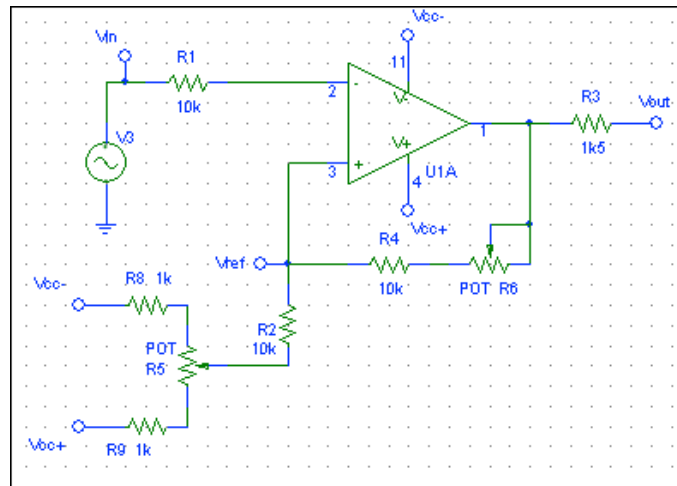

Fig. 6 Schmitt trigger
1. Solder circuit illustrated in fig. 6. Potentiometer $R6 = 100k\Omega$.